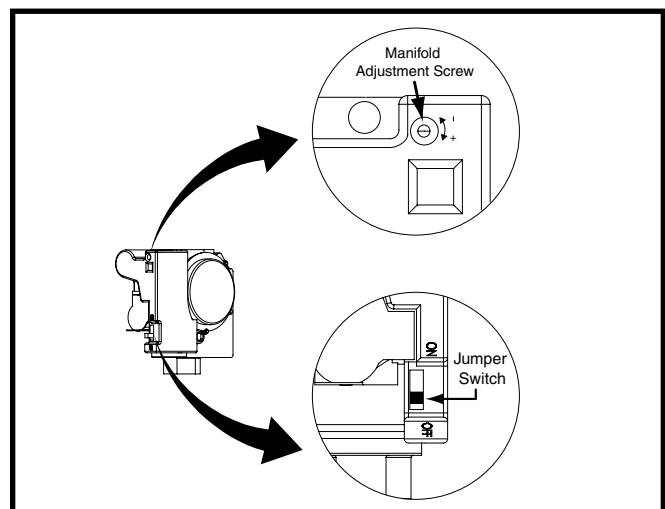

Figure 21. Modulating Gas Valve
Conversion to LP/propane is detailed in the installation instructions provided with the conversion kit. Generally, this will require the replacement of the burner orifices and adding a jumper switch on the gas valve pressure regulator. See Figure 21, \(page 25\) for jumper switch location.
- b.) Using a small screw driver, turn the adjusting screw (Figure 21) on the regulator to adjust the full input setting.